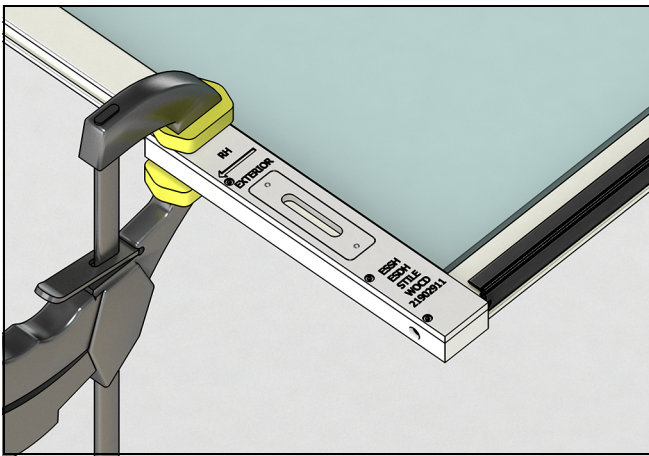

Figure 3
7. Secure the top portion of the WOCD stile jig by clamping it to the top sash. Be sure the jig is fully seated in the outside channel of the sash. See Figure 3.